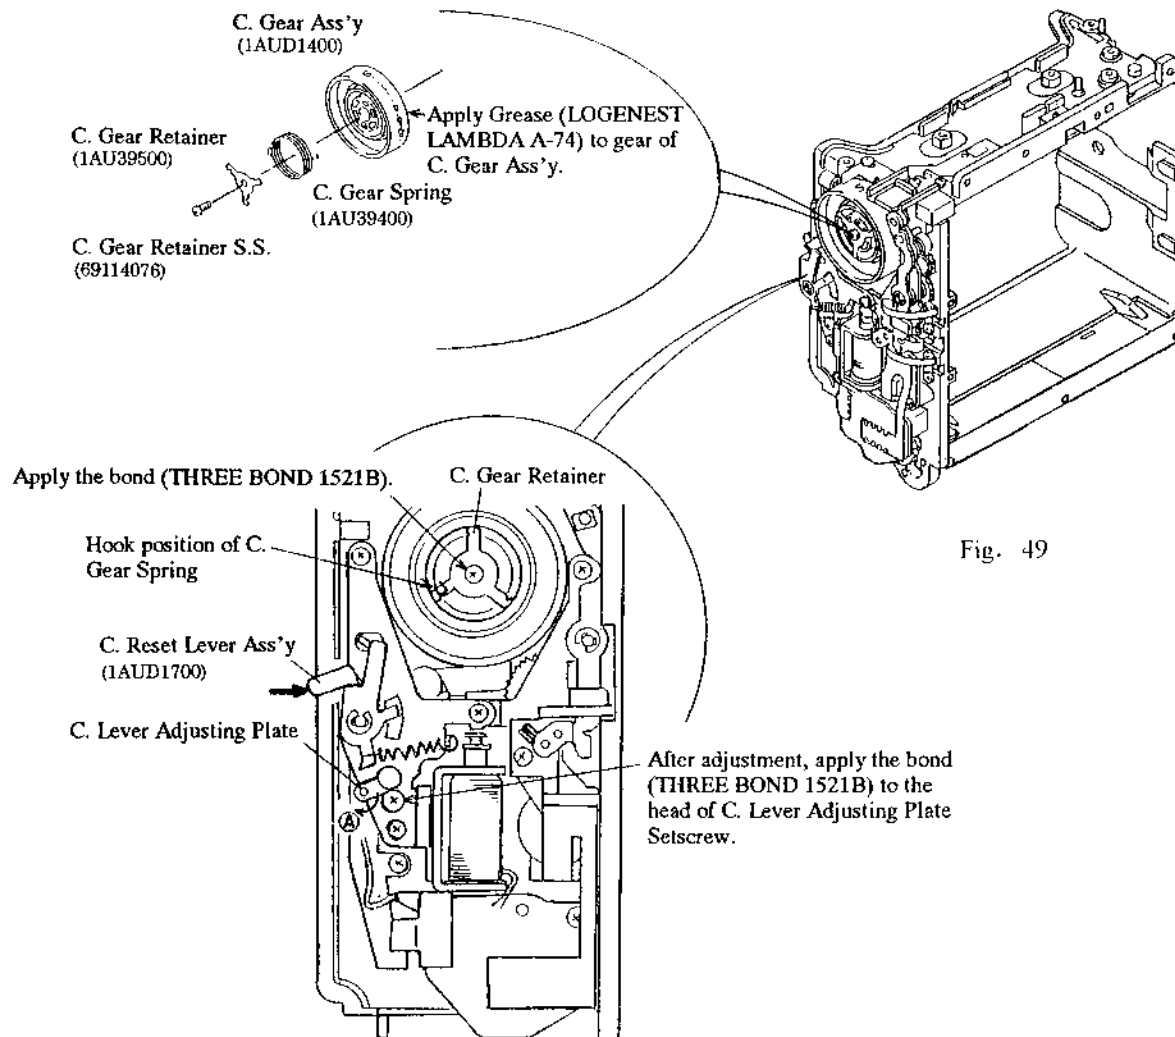

Fig. 49
(See Figs. 49 and 50)
- 9) Push the C. Reset Lever Ass'y (1AUD1700) in the direction of the arrow. (See Fig. 49)
If the C. Lever can not move completely by pushing, move the C. Lever Adjusting Plate in the direction of the arrow **A**. (See Fig. 49)
Apply the bond (THREE BOND 1521B) to the head of the C. Lever Adjusting Plate Setscrew. (See Fig. 49)